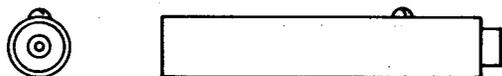

Fig. 3—602A Jack
2.03 **602A:** This coaxial-type jack (Fig. 3) has the center conductor designed for a solderless shield connection to a connecting cable by means of a sleeve. The body rotates freely in the frame; thus, facilitating alignment of cable. This jack mates with the 439A and 440A plugs and is used with the 730A cable. The 602A jack is provided with an outer sleeve and is used with the L4 Coaxial System MMX-2.